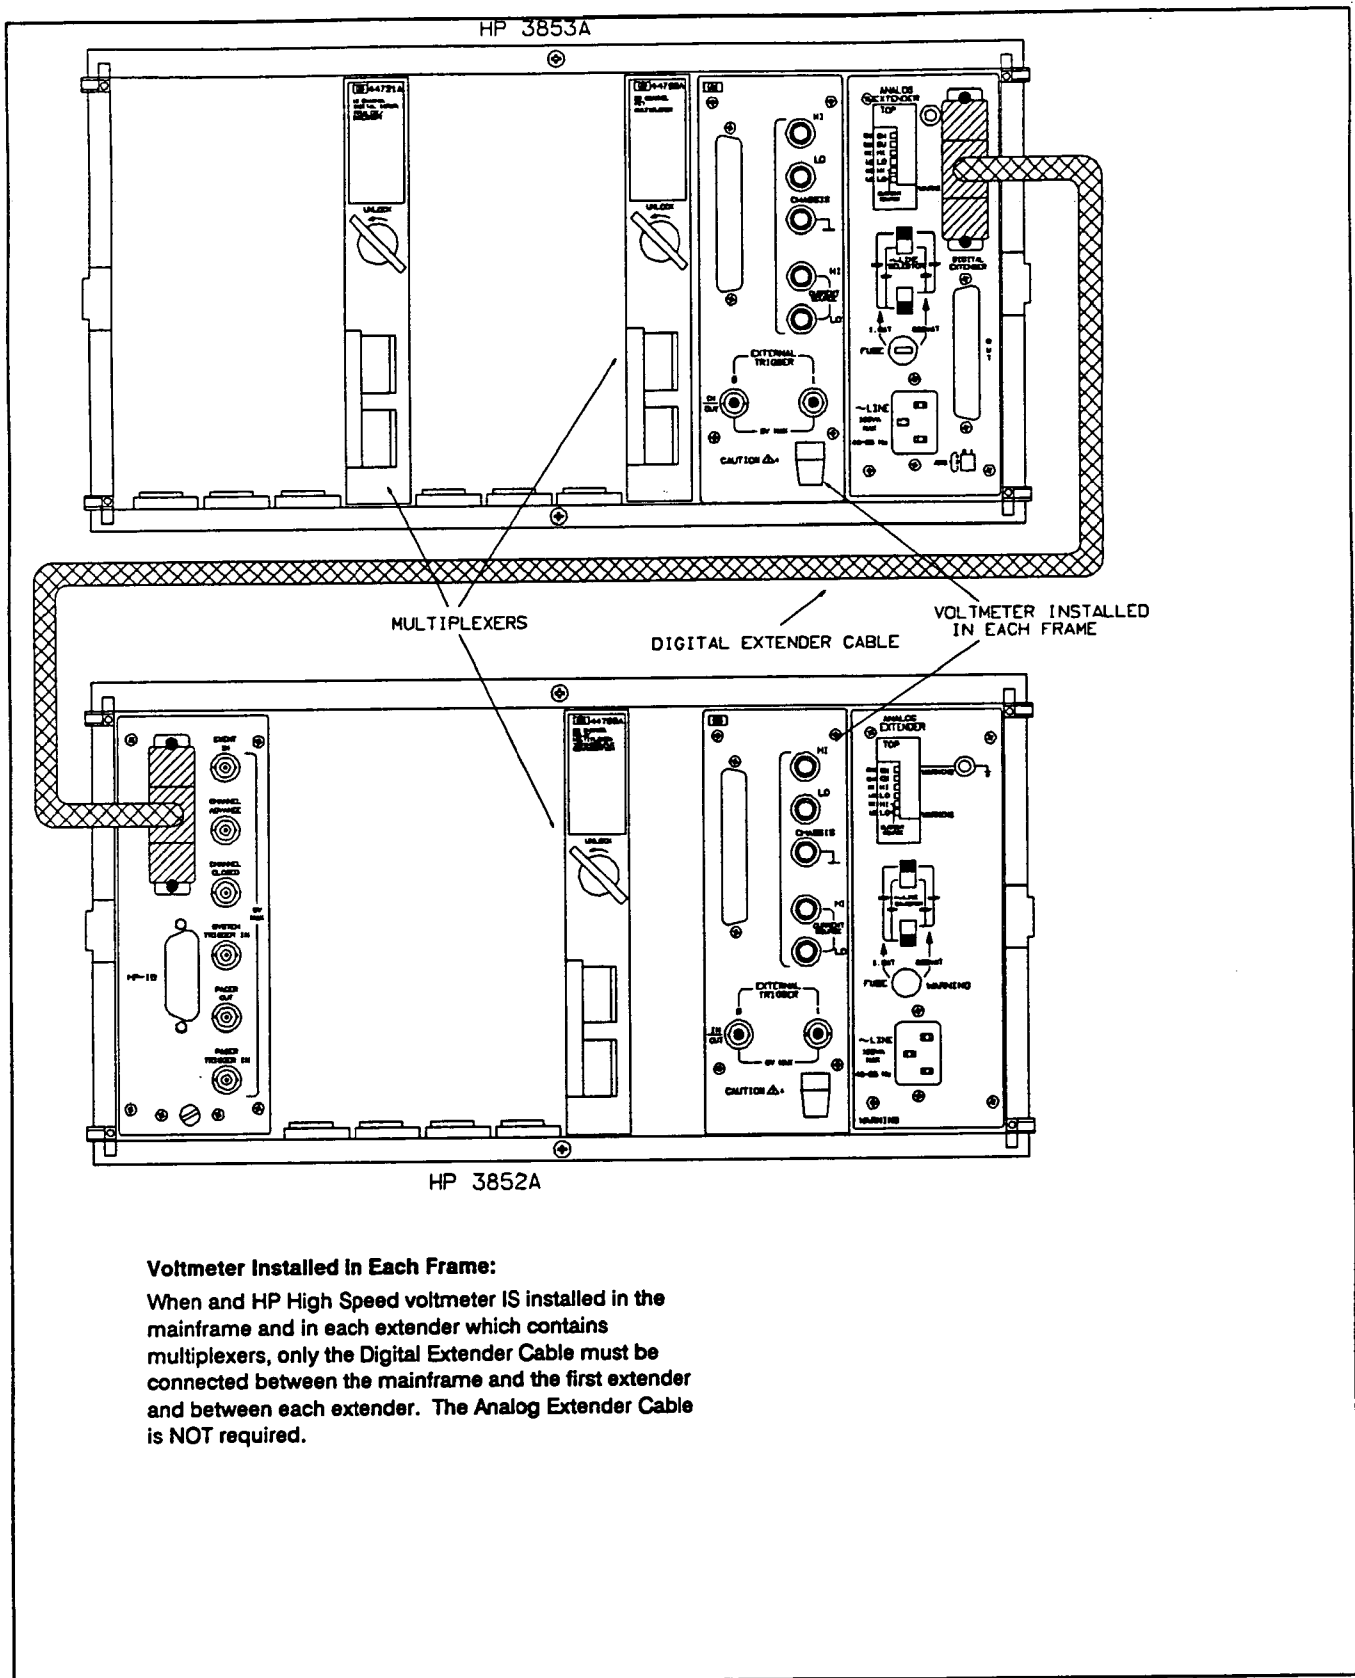

Figure 3-5. Multiplexer Measurements Installation (Cont)
When user inputs are connected to the multiplexers, replace the terminal module(s) and install the multiplexer(s) and voltmeter(s) in the slot(s) desired as shown in Figure 3-5.
1. Do NOT use the installation steps in Figure 3-5 for ribbon cable measurements installation. See Figure 3-6 for ribbon cable measurements installation.
1. Procedures shown apply only to ribbon cable inputs. See Figure 3-5 for (backplane) multiplexer inputs.